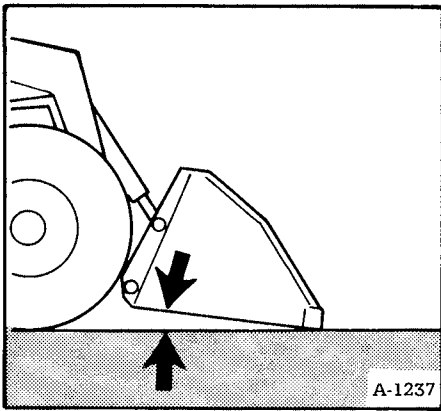

Fig. 15 Digging Angle
1. Raise the boom slightly and tip the bucket down until it contacts the ground (Figure 15).